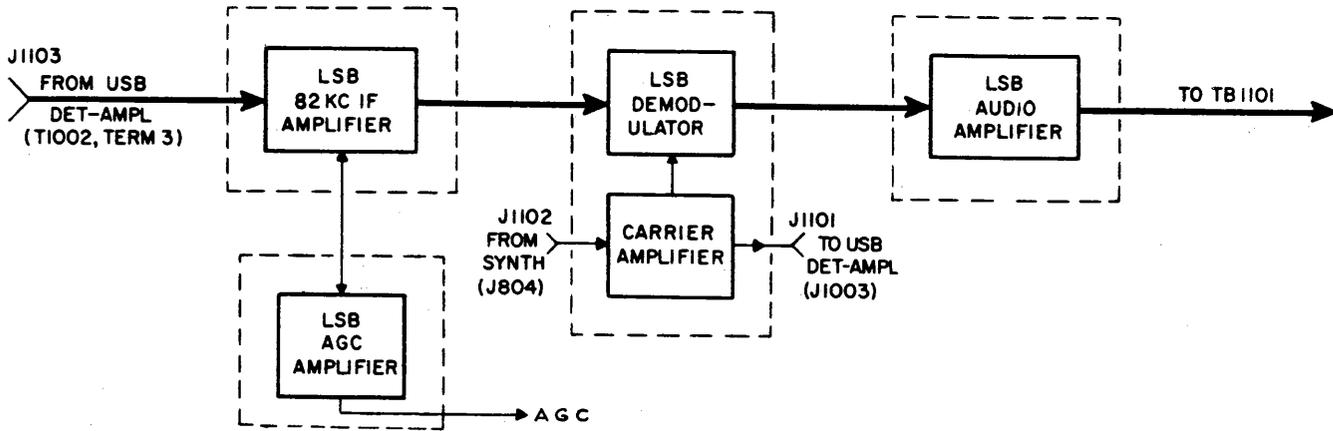

Figure 5-67. LSB-Amplifier, Functional Block Diagram
a. DIAGRAMS.—Figure 5-67 is a functional block diagram of the LSB detector-amplifier assembly. For a complete schematic diagram, refer to figure 6-19. Functional schematic diagrams of the individual circuits in the assembly are as follows: